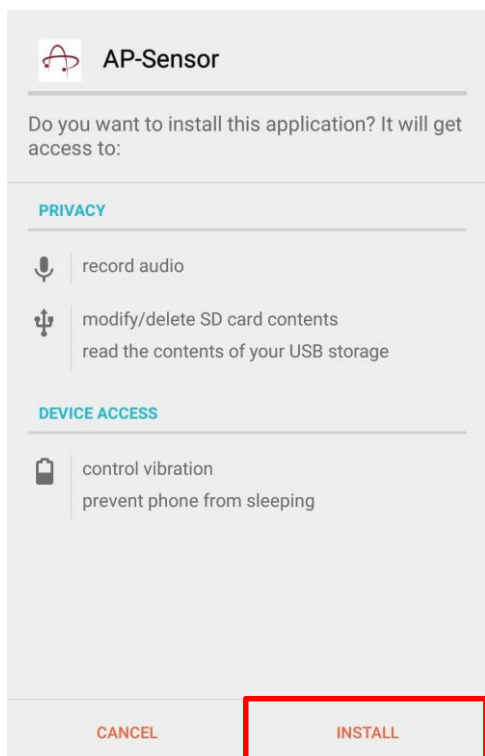
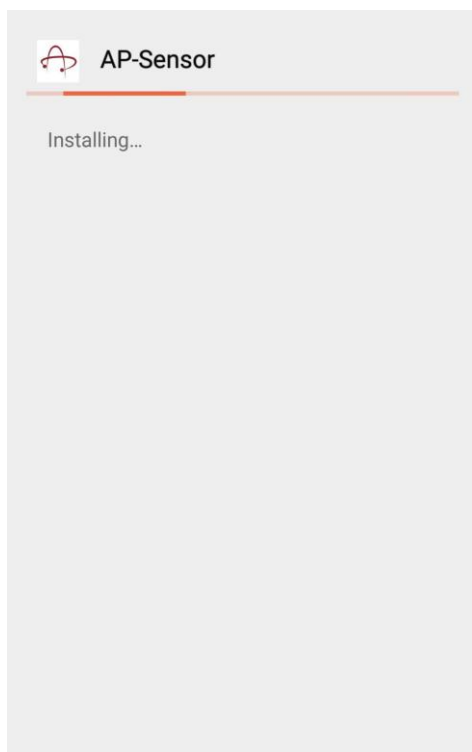

Fig 2.1
Fig 2.2
2. Open the “AP-Sensor_v2.3.apk” file and click “INSTALL” (in Fig 2.1) to start install the app (Fig 2.2).